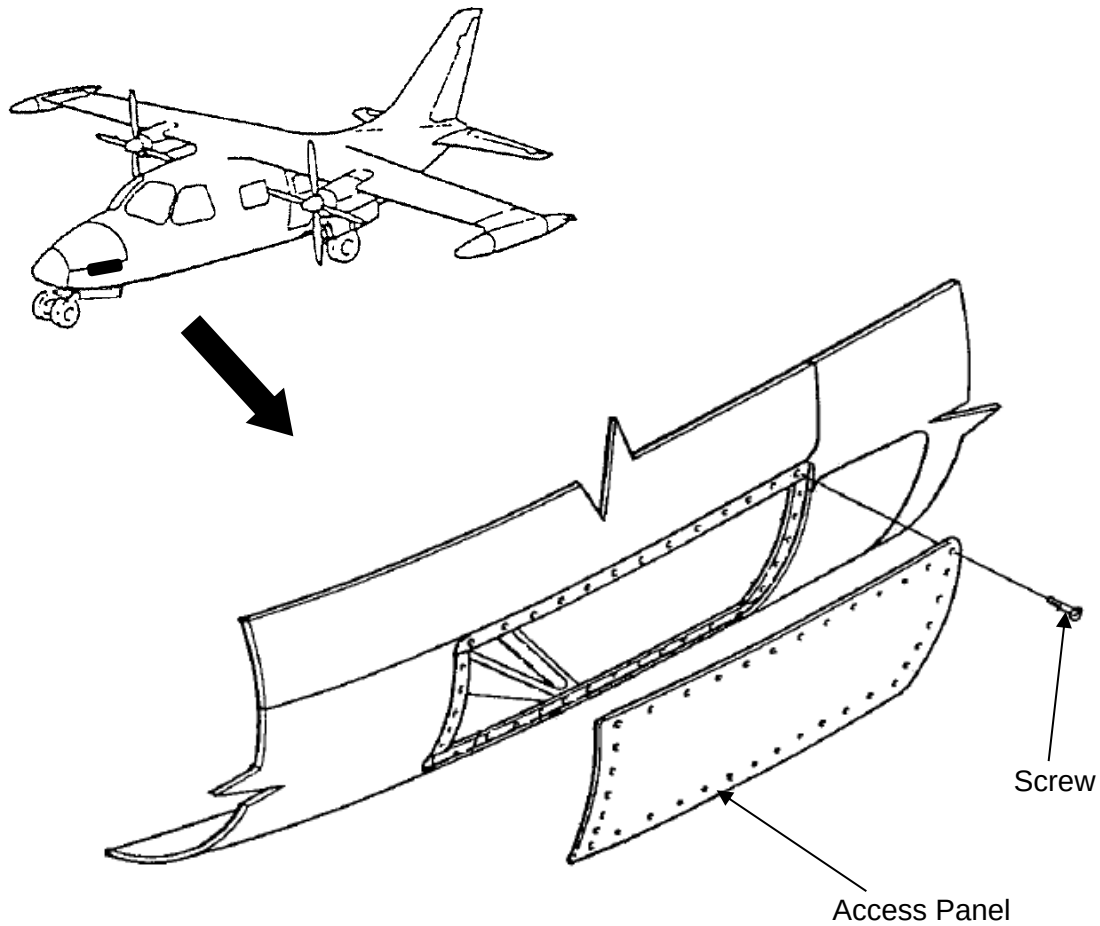

Figure 3: Access Panel Removal (LH/RH)
- (1) Place the aircraft on jacks.
- (2) Remove LH and RH NLG Access Panels from Forward Fuselage. (Figure 3)
- (3) Remove Traveling Nut Panel (Cabin).
- (4) Connect Torque Links.
- (5) Perform operational check of Landing Gear System.